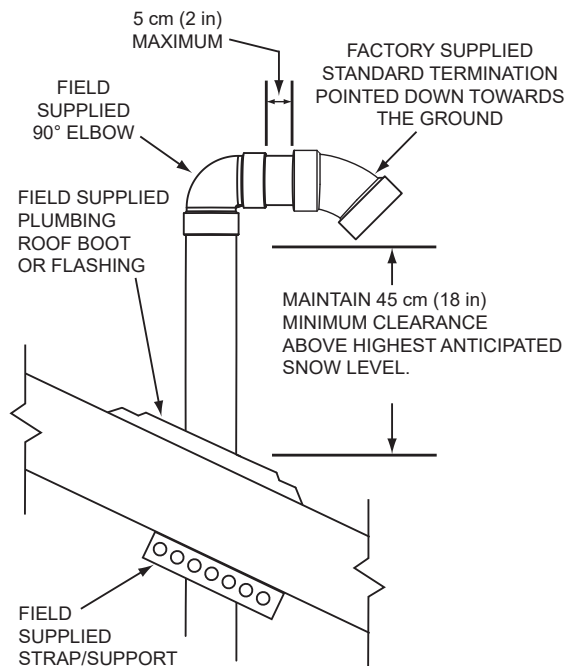

Figure 31. Vertical Termination(s) Installation
2. If installing only the vent (exhaust) piping in a power-vent configuration vertically through the roof, ensure that all exterior vertical clearance requirements shown in **Figure 31** and **Figure 32** (page 37) are being maintained. These clearances and those cited by local and national codes must be maintained.
4. If installing both intake-air and vent piping in a direct-vent configuration vertically through the roof, ensure that all exterior vertical clearance requirements shown in **Figure 31**, **Figure 32** (page 37), and **Figure 33** (page 37) are being maintained. These clearances and those cited by local and national codes must be maintained.
- A. The vent termination must be oriented facing downward as shown in **Figure 31** and **Figure 32**.
- B. The bottom edge of the vent termination must be a minimum of 18 in (45 cm) in Canada, above the average or expected snow level as shown in **Figure 31**.
- D. The bottom edge of the intake-air and vent terminations must be a minimum of 18 in (45 cm) in Canada, above the average or expected snow level as shown in **Figure 31** below.
9. Suspend the pipe(s) through center of hole using field-supplied metal strapping or equivalent support materials as shown in **Figure 31**.
10. Slide a roof boot or equivalent flashing over the pipe, secure the roof boot or equivalent flashing to the roof (see **Figure 31**), and seal around the flashing.
11. Install the factory-supplied intake-air and/or vent termination(s) using field-supplied pipe and one field-supplied 90° elbow as shown in **Figure 31**. The short section of pipe that connects between the field-supplied 90° elbow and the factory-supplied termination must not be excessive in length. The exposed portion of this pipe shall be no more than 2 in (5 cm). See **Figure 31**.